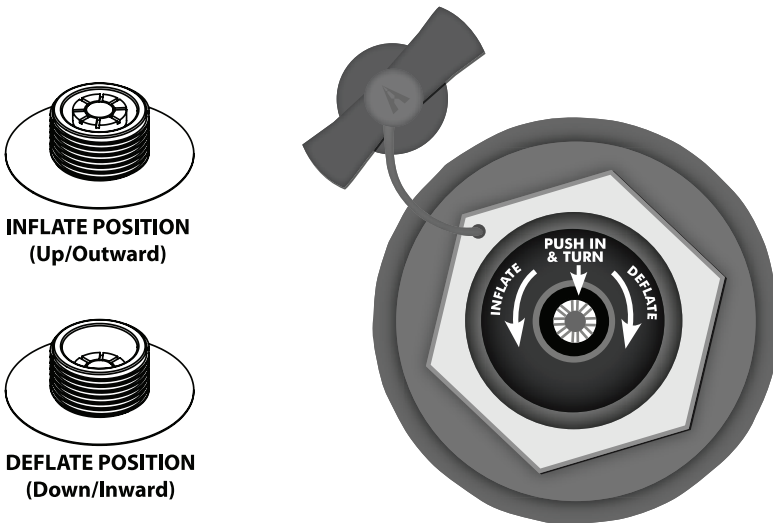

Figure 1. Inflate/Deflate Spring Valve
2. Push stem inward and rotate to deflate position (*See Figure 1*).